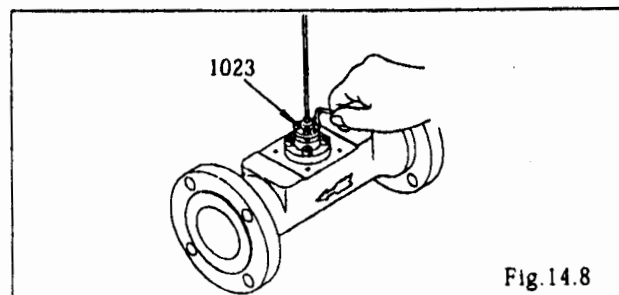

Fig. 14.8
- ⑩ Take off sensor fitting screws (hex socket head screws) (1023) (Fig. 14.8).